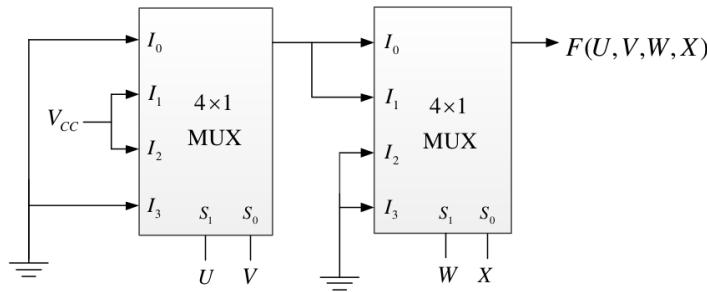

Fig. 4.16
30. A four-variable Boolean function is realized using 4×1 multiplexers as shown in the Fig. 4.16. The minimized expression for F is (GATE EC 2018)